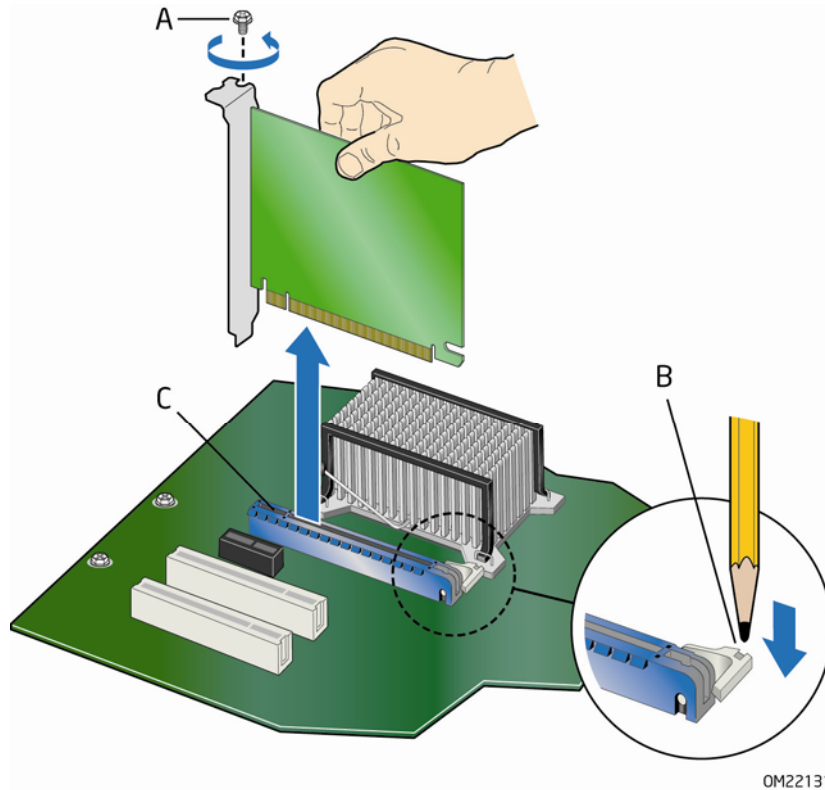

Figure 17. Removing a PCI Express x16 Card
2. Remove the screw (Figure 17, A) that secures the card's metal bracket to the chassis back panel.
3. Push the card ejector lever down using the tip of a pencil or similar tool (Figure 17, B) in the notch. This will release the card from the connector (C).